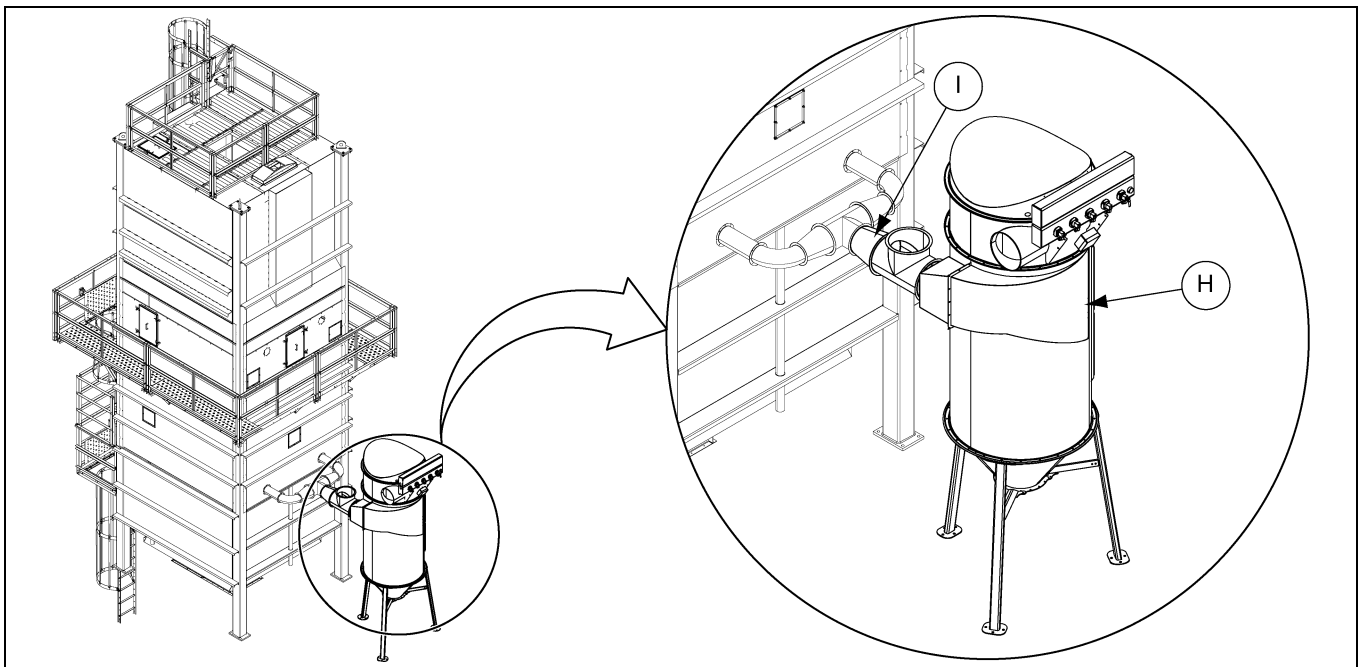

Figure 2M
2. Position the filter unit (H) and connecting duct (I). (See Figure 2M.)